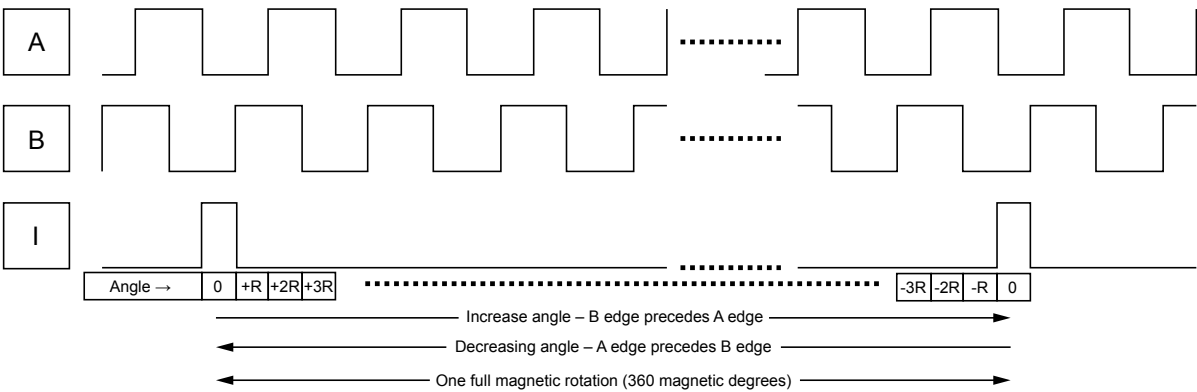

Figure 4: One Full Magnetic Revolution
a frequency of 2^N cycles per magnetic revolution, giving a cycle resolution of $(360/2^N)$ degrees per cycle, where N is set by the RESOLUTION_PAIRS field in EEPROM; see Table 3. The “B” signal is offset from “A” by $\frac{1}{4}$ of the cycle period. The “I” signal is an index pulse that occurs once per revolution to mark the zero (0) angle position. One revolution is shown in Figure 4.